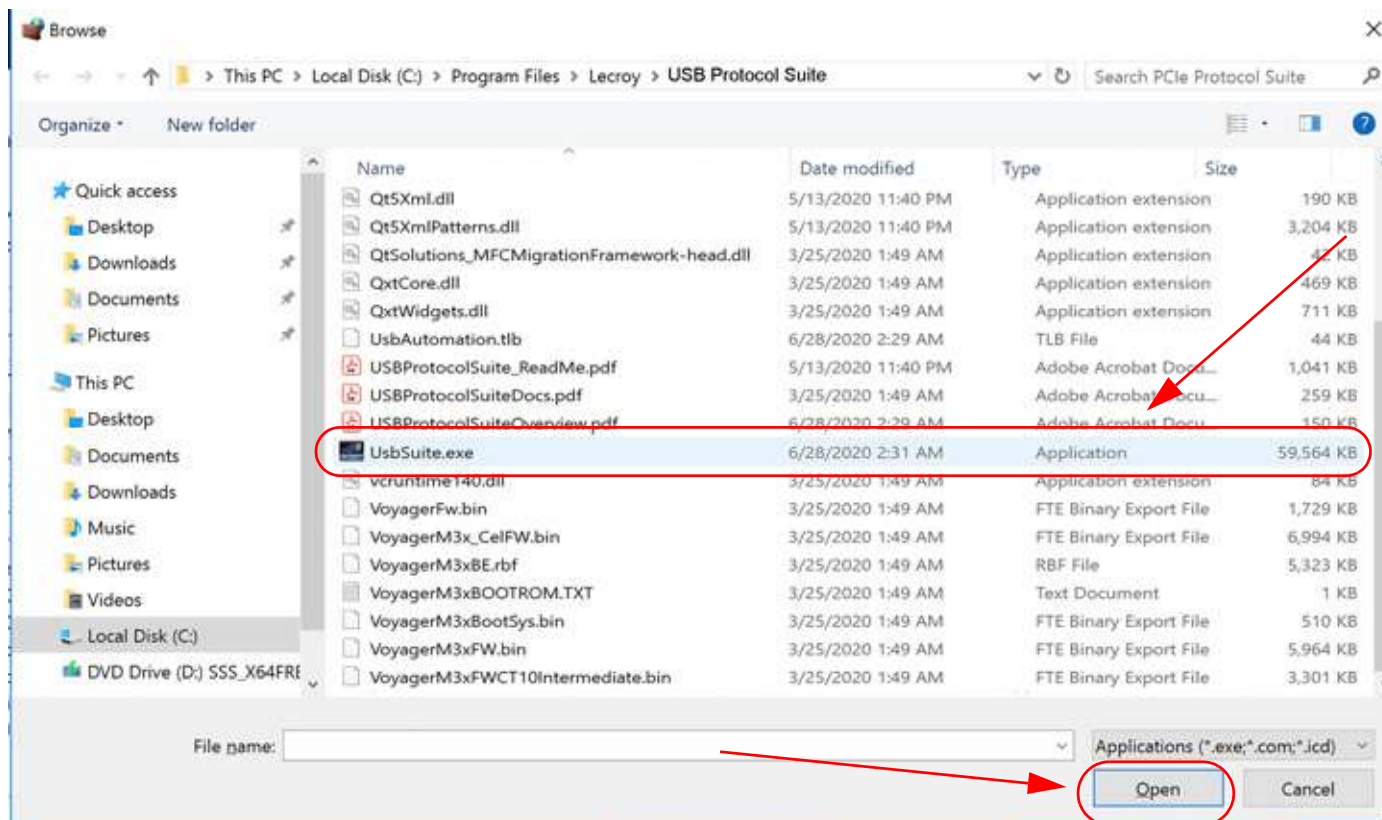

Figure 3.7: Windows Server 2016/2019: Browse to Find Application -> USB Protocol Suite Application
7. In the Browse window navigate to the location of the installation directory for the USB Protocol Suite you are installing. The Teledyne LeCroy USB Protocol Suite is typically installed on your machine in the C:\Program Files\LeCroy\USB Protocol Suite directory. See Figure 3.7.